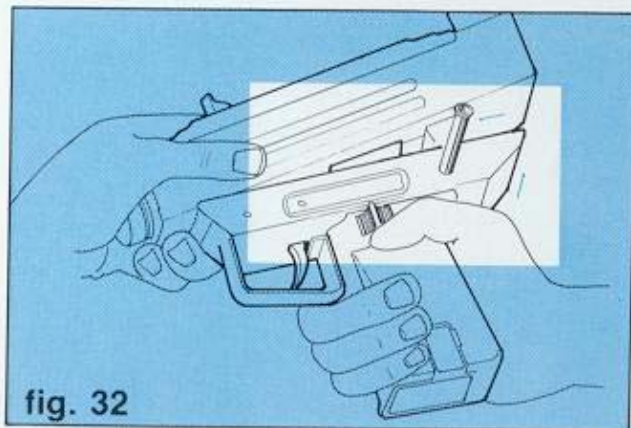

fig. 32
1. Insert lip in front of pistol grip into recess at bottom receiver. (fig. 32).